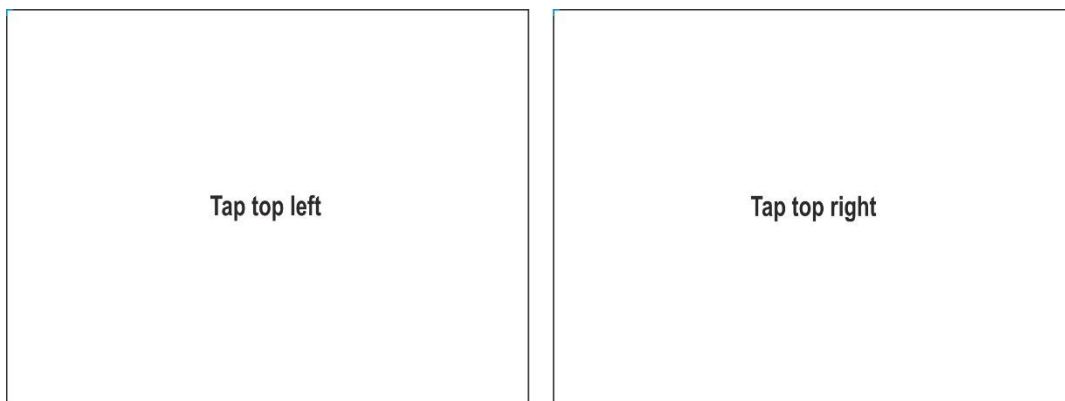

Fig. 10: Touch Screen Calibration Screens – Top part
1. Select the "Start" item in the "Calibration" field. The message "Tap top left" appears on the instrument. Touch the top of the screen near the light blue indicator in the left corner (see Fig. 10 – left side)
2. The message " Tap top right" appears on the instrument. Touch the top of the screen near the light blue indicator in the right corner (see Fig. 10 – right side)